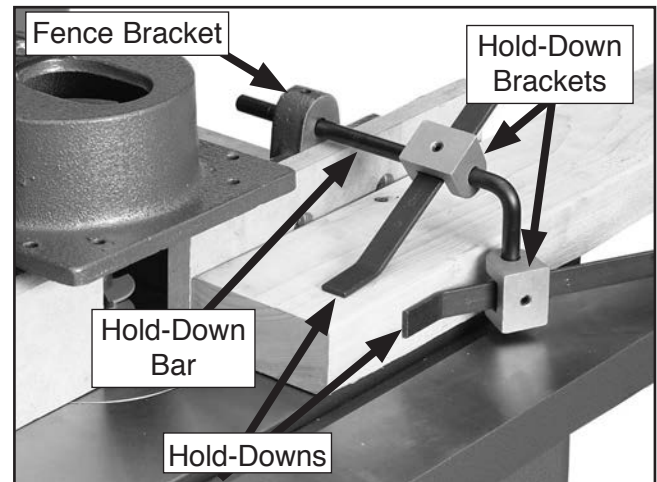

Figure 28. Using hold-downs on both sides.
Hold-downs are used to hold the workpiece flat on the table and snug against the fence as shown in **Figure 28**.
4. Slide each hold-down between a hold down bracket and hold down bar, as shown in **Figure 28**.